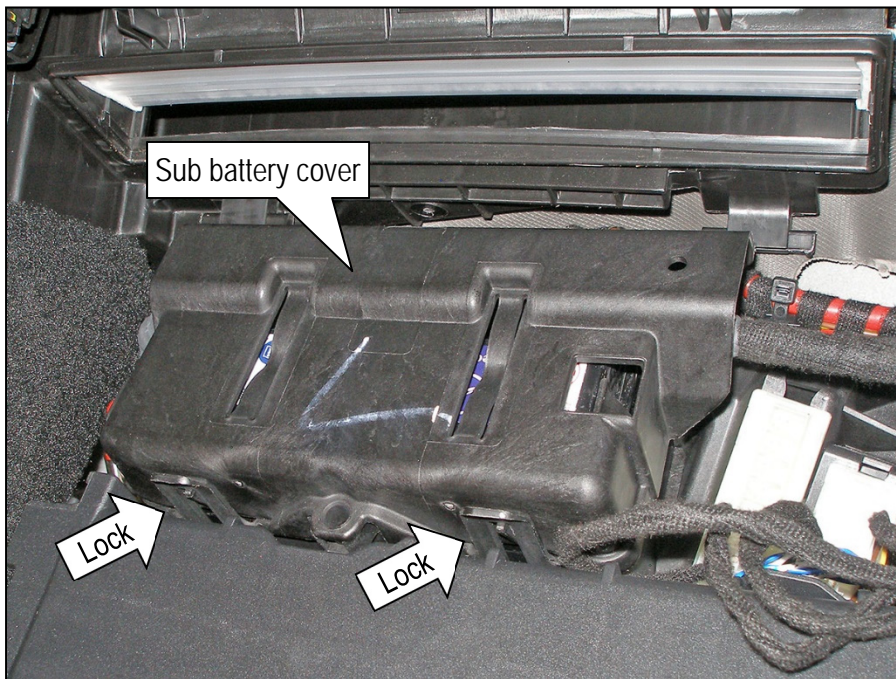

Figure 5
10. Locate the yellow wire going to fuse # 42, and then cut it where shown in Figure 5.